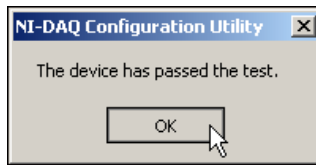

Figure 1-11. Self-Test Result for the NI 5600 RF Downconverter Module
6. The NI-DAQ Configuration Utility dialog appears as shown in Figure 1-11. Click **OK** to return to the Configuring Device window.